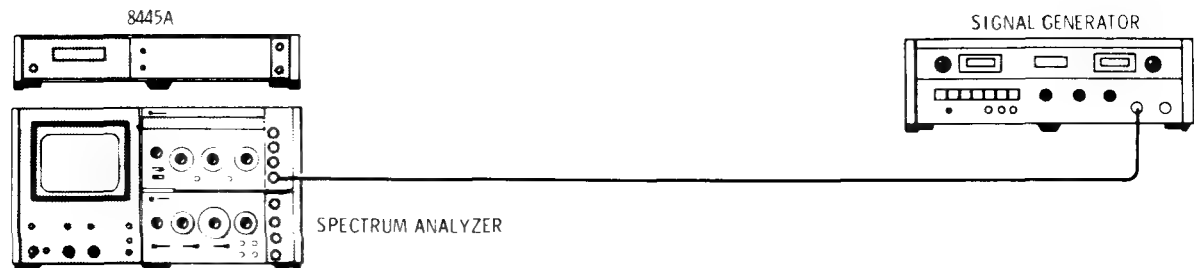

Figure 4-2. Insertion Loss Test Setup, DC — 1.8 GHz
1. Connect test setup as indicated in Figure 4-2 and make the following control settings: